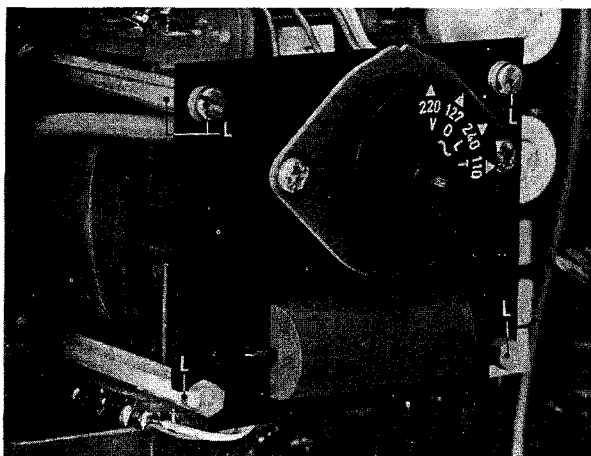

Fig. 3.19. Dismantling
- Remove the four screws L (when refitting the transformer do not forget the earth wire of the voltage quintupler), Fig. 3.19